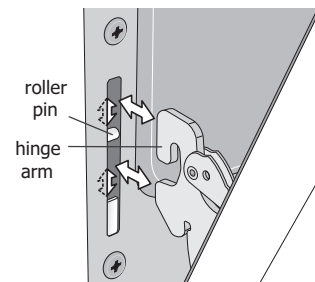

Figure 31: Replacement and location of hinge arm and roller pin
3. Firmly grasp both sides of oven door along the door sides. Do not use the oven door handle (See Figure 31).
4. Close the door to approximately 10 degrees from the door frame (See Figure 31).
1. Firmly grasp both sides of oven door along the door sides. Do not use the oven door handle (See Figure 31).
2. Holding the oven door at the same angle as the removal position, seat the hook of the hinge arm over the roller pins located on each side of the oven door frame (See Figure 31 and Figure 32). The hook of the hinge arms must be fully seated onto the roller pins.